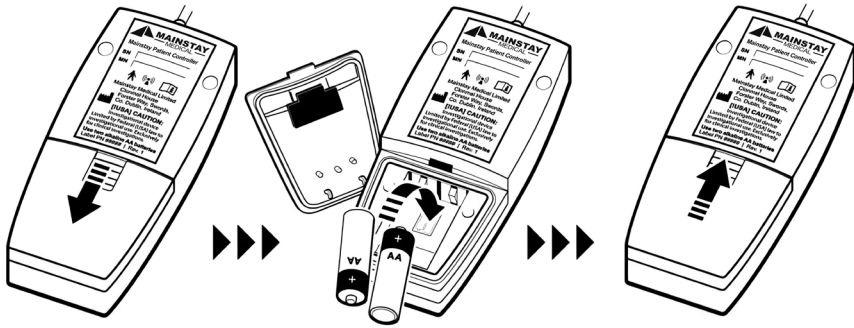

Figure 6: Installing or replacing the Activator batteries
- Open the battery compartment cover (Figure 6).